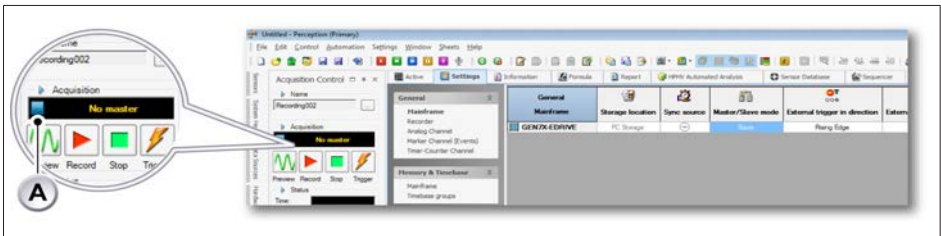

Fig. 14.26 Status - Searching for Master
- **Searching for master** (see Fig. 14.26)